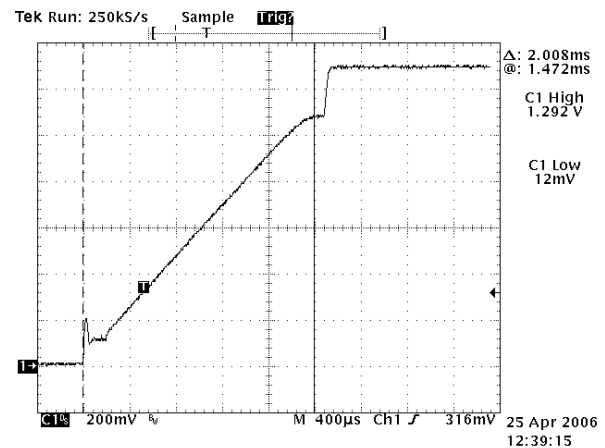

Figure 16. VR11 Startup
The controller supports two different startup routines. A legacy VR10 ramp to the initial VID code, or a VR11 Ramp to the 1.1 V VID code, with a pause to capture the VID code then resume ramping to target value based on an internal slew rate limit. See Figures 16 and 17. The controller is designed to regulate to the voltage on the SS pin until it reaches the internal DAC voltage. The soft-start cap sets the initial ramp rate using a typical 5.0 μA current. The typical value to use for the soft-start cap (SS), is typically set to 0.01 μF. This results in a ramp time to 1.1 V of 2.2 ms based on equation 1.